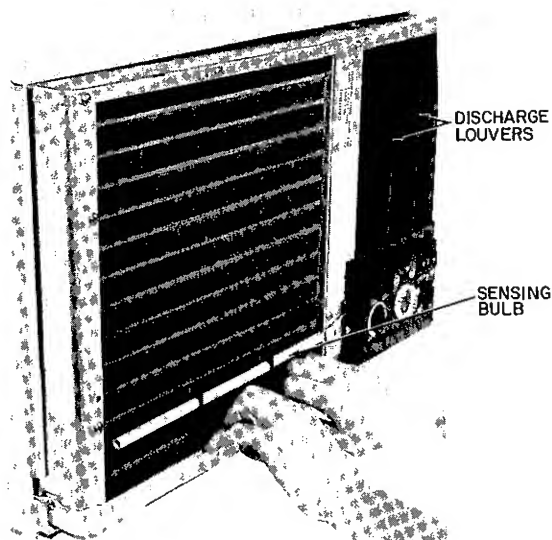

Fig. 29 — Sliding Chassis Out of Casing
- e Remove sensing bulb from coil face. See Fig 29.
- c Slide chassis out of casing See Fig 29
- a Remove chassis from casing See Chassis Instructions and Fig 29
- a Remove chassis from casing Refer to Chassis instructions and Fig. 29
- j To remove discharge louvers, flex and remove pin from bottom hole Turn louver and pivot bottom upward to remove from top hole See Fig. 29 and 34
- a Remove chassis from casing. See Chassis instructions and Fig 29